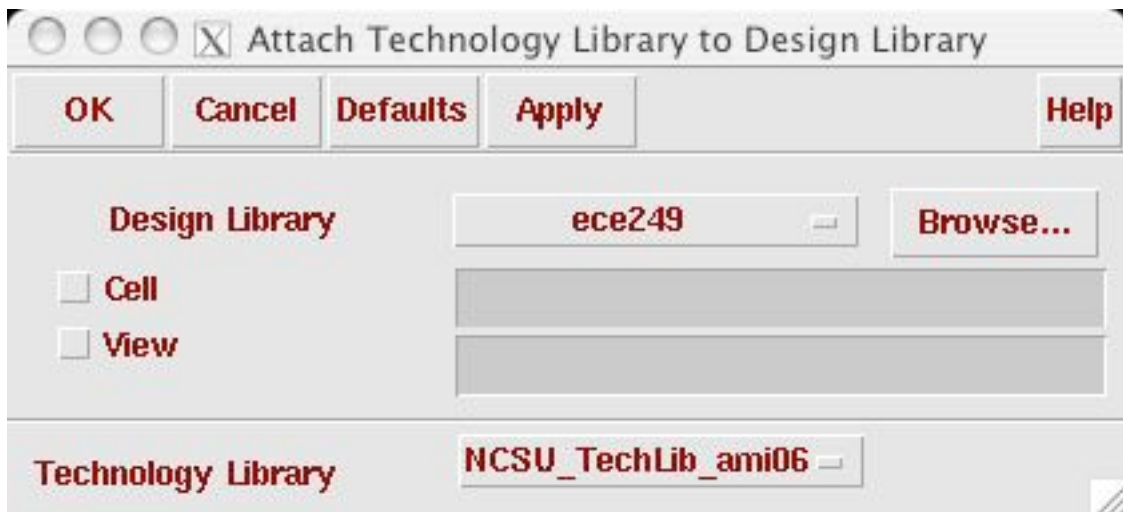

Fig. 1. Attach Technology Library window.
Step 3: In the *CIW* window, go to **Tools... → Technology File Manager...** and a *Technology File Tool Box* will appear. Click **Attach...** and a *New Technology Library* window will appear as in Fig. 1. Choose your **ece249 Design Library** and the **NCSU_TechLib_ami06 Technology Library**.